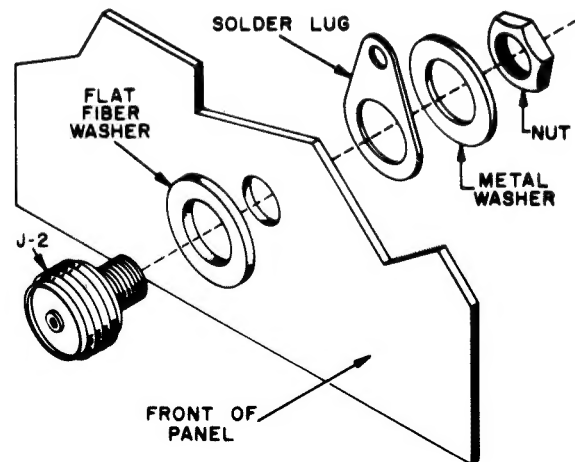

FIGURE 4. HOW TO MOUNT THE CHASSIS CONNECTOR
- ( ) Mount J-2, the chassis connector in the large hole in the lower center of the panel. This connector is supplied with a shouldered fiber washer. Take this washer off and throw it away. Place the flat fiber washer over the small threaded end of the connector. Scrape the paint from around this hole on the rear of the panel. Insert the small threaded end through the hole in the panel. Place the solder lug and the flat metal washer on the connector and tighten the nut securely. See Figure 4.